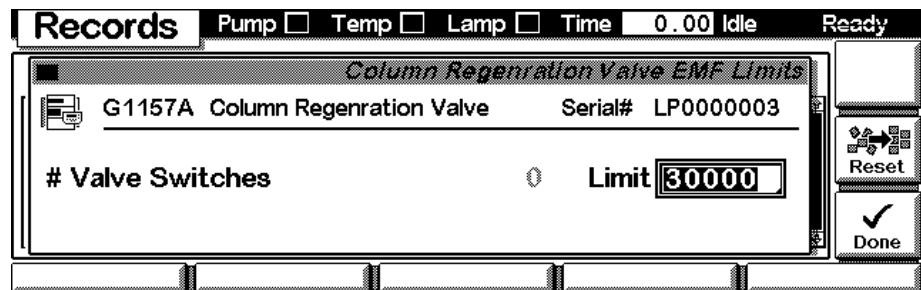

Figure 8 Early Maintenance Feedback (EMF) Screen
- 4 In the upcoming dialog (Figure 8) edit the EMF limit. If this limiting number of switches has been reached, you will get an Early Maintenance Feedback signal on your Handheld controller and in the Graphical User Interface of the Agilent ChemStation Software. After you have done an maintenance action, press **Reset (F7)** to reset the switch counter. Also refer to the section “Early Maintenance Feedback \(EMF\)” on page 32.